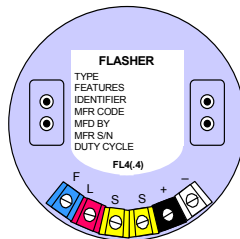

Figure 4-1
- b. Flashers (Figure 4-1) are used to regulate battery voltage to the lamp, sense lamp failure, provide a flash rhythm and turn off the light during the daytime. Flashers are available in two versions: the CG-181 and CG-481. The CG-181 will operate lamps 3.05 amps or less (35 watt tungsten-halogen lamp included). The CG-481 is used to operate lamps 50 watts and greater. Flashers are available in standard and non-standard flash rhythms. Standard rhythms are stocked at the Engineering Logistics Center (ELC) Baltimore. Non-standard rhythms and slave flashers must be purchased from the manufacturer.